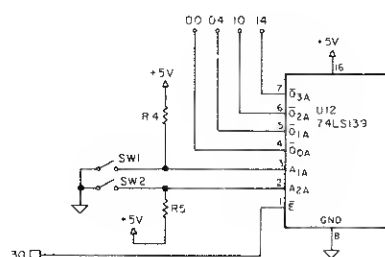
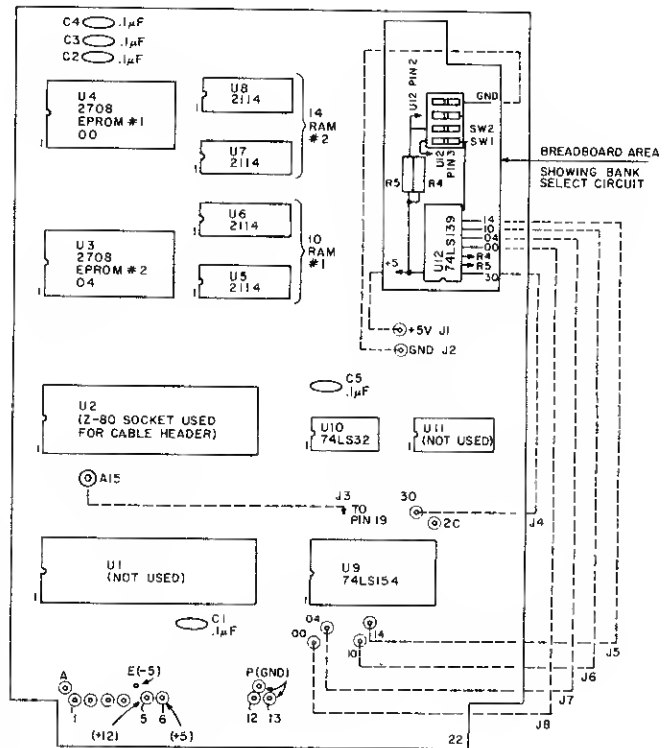

Fig. 2
Fig. 3
tions called for in Fig. 3; be sure there are no bent pins as you insert each socket. Install the bypass capacitors and solder them in place. Next, build the bank select circuit shown in Fig. 2 following the parts placement suggested in Fig. 3. Lastly, install the wire wrap jumpers called for in the following text detailing the bank select circuit options you chose.
Table 3 shows the interface connections made through a suitable 8-inch length of 40 conductor cable terminating in an edge connector plug compatible with the TRS-80. The connections to the "raw" end of the cable are made via a 40 pin header which will plug into the M-80 CPU socket (U2). See Fig. 3 for the cable wiring table.
memory map. The bank select circuitry shown in Fig. 2 allows you to determine which of these sections of memory (ID) will be used at the decoded address 3000H (see Table 2).
You may build the bank select circuit shown in Fig. 2 or you may decide to enable only one section of the memory, eliminating the need for this added work. If you do not wish to use the bank select approach, connect a wire wrap jumper from the location labeled 30 at U9 to the position labeled according to the ID of the memory you wish to use (00, 04, 10, 14). The corresponding memory chips are labeled 0000, 0400, 1000, and 1400 near their sockets. Since the board does not provide pull-up to +5 volts for the unused chip selects, you must install only the memory for the section you wish to use. Installation of additional memory chips may cause erratic operation without the bank select circuitry.
If you use the bank select circuitry in Fig. 2, build its decoder in the breadboard area of the M-80 board as instructed in the previous section. Connect a wire wrap jumper from the 74LS139 decoder pin 1 to the location marked 30 at U9. Connect wire wrap jumpers from each of the locations marked 00, 04, 10 and 14 at U9 to the 74LS139 decoder pins 4, 5, 6 and 7 as shown in Fig. 3.